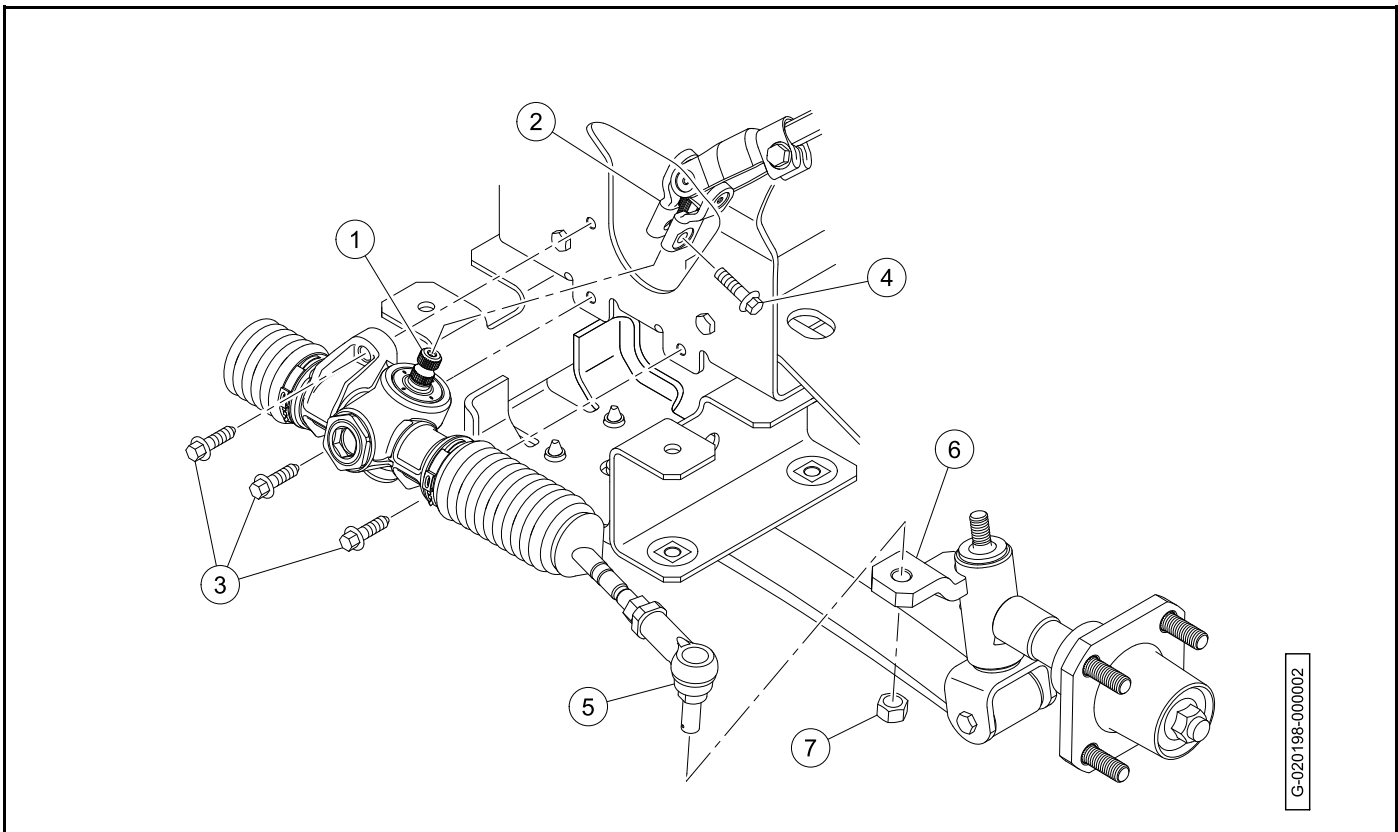

Figure 7-6 Rack and Pinion Installation
1. Apply a light coat of anti-seize lubricating compound to the pinion shaft (1) (**Figure 7-6**).